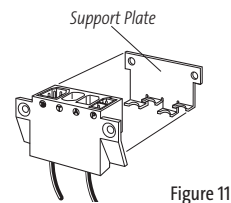

Figure 11
3. Snap the support plate onto the rear of the connector holder (Figure 11).